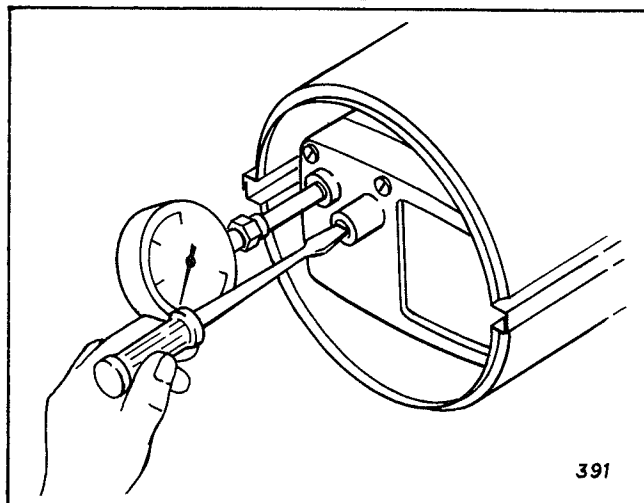

Figure 12. Checking and adjustment of Air Pump Pressure
1. Remove the plug from the air filter housing, and install the pressure gage (listed in paragraph B of this Section) into the hole. See Figure 12.